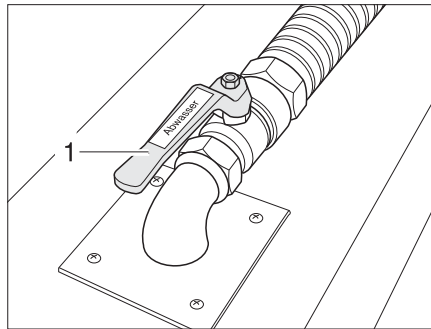

Fig. 287 Waste water tap
The waste water tap (Fig. 287,1) is fixed in the double floor. The waste water tap is black and is labelled with the word "Abwasser" (waste water).
- Open the waste water tap (Fig. 287,2). The waste water will run out.